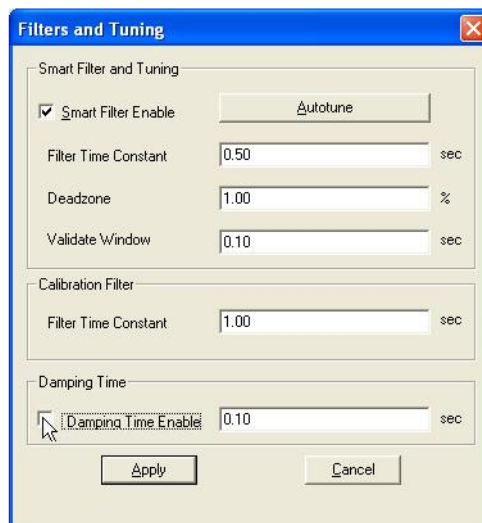

Figure 217 Click Damping Time Enable
1. Click **Damping Time Enable** (Figure 217).